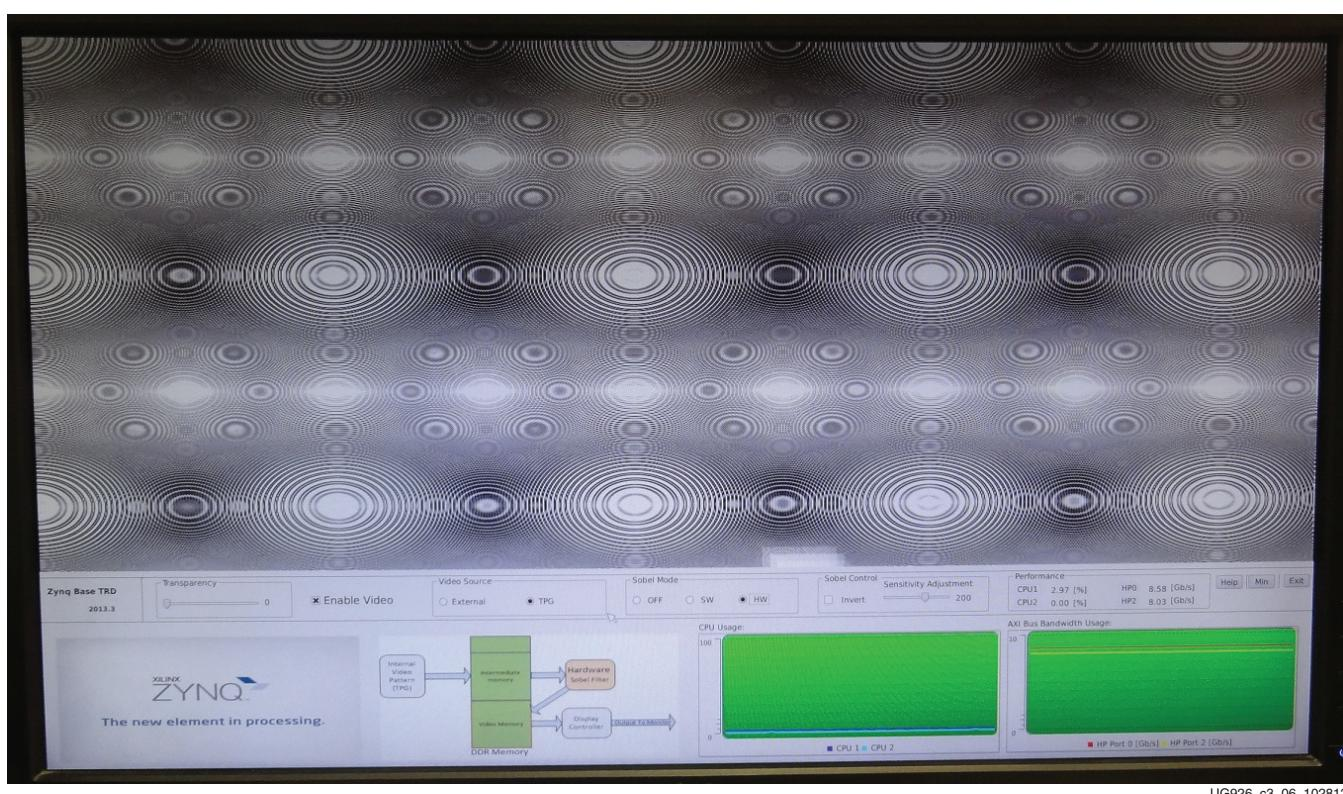

Figure 3-6: Qt-Based GUI to Control the Video Pipeline
4. The Qt-based video demonstration application starts. The GUI application shows up at the bottom of the screen (see Figure 3-6).
5. The Qt-based application allows the user to experience the Base TRD video demonstration and is controlled through the mouse. The user can click **Help** for short messages and information about the control window of the QT application. The GUI can be minimized with the MIN button (See Figure 3-6) and can be brought back to the original size with the MAX button. The user can also control transparency of the GUI with the Transparency slider.